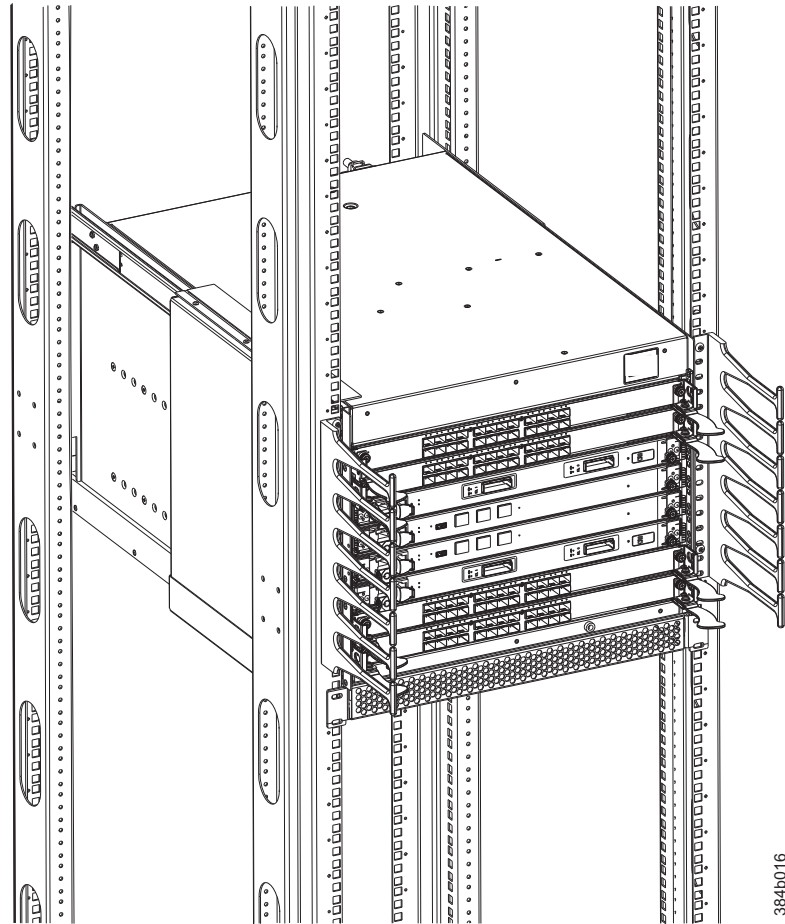

Figure 35. Cable management finger assemblies
3. Unscrew and save the two screws that attach the cable management assembly to the rack upright (see Figure 35 on page 75). Support the assembly to prevent it from falling.